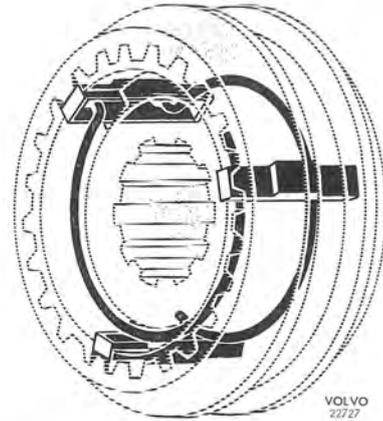

Fig. 4-26. Assembling synchronizing
1. Assemble 1st-2nd and 3rd-4th speed synchronizers. Fit the snap rings correctly, see Fig. 4-26. Place the resilient ring in the hub for 3rd—4th synchronizers, see Fig. 4-27.